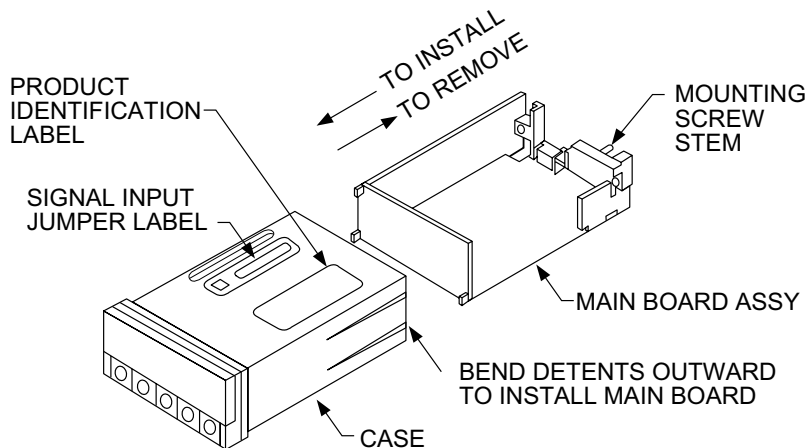

Figure 5-2. Board Assembly Removing/Installing Detail
5. Using Figure 5-2 as a guide, bend the side-panel detents on the case outward and pull the board assembly out of the case by the mounting screw stem.
To look at the Rating/Product ID label on the case, you must follow the first step as described in Section 5-2. Refer to Figure 5-2 for the location of the Product Identification label.
The meter's operating voltage is shown in the VOLTS: entry of the Product Identification and Serial Number Label. It is located on the case, as shown in Figure 5-2, and is clearly visible on the meter packing box.